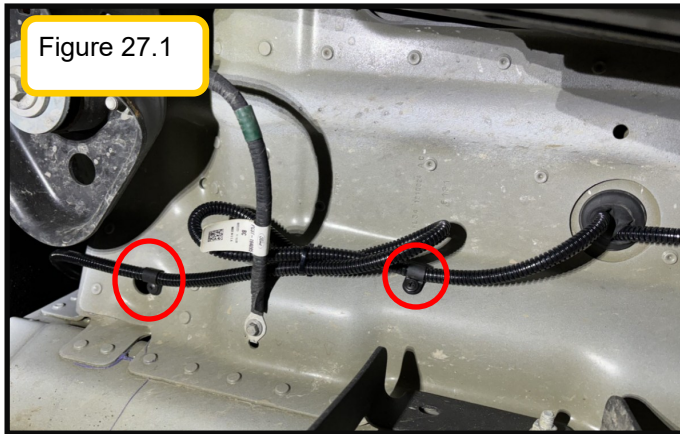

Figure 27.1
21. Secure any excess underbody wiring using zip ties. (Fig 27.1—27.3)